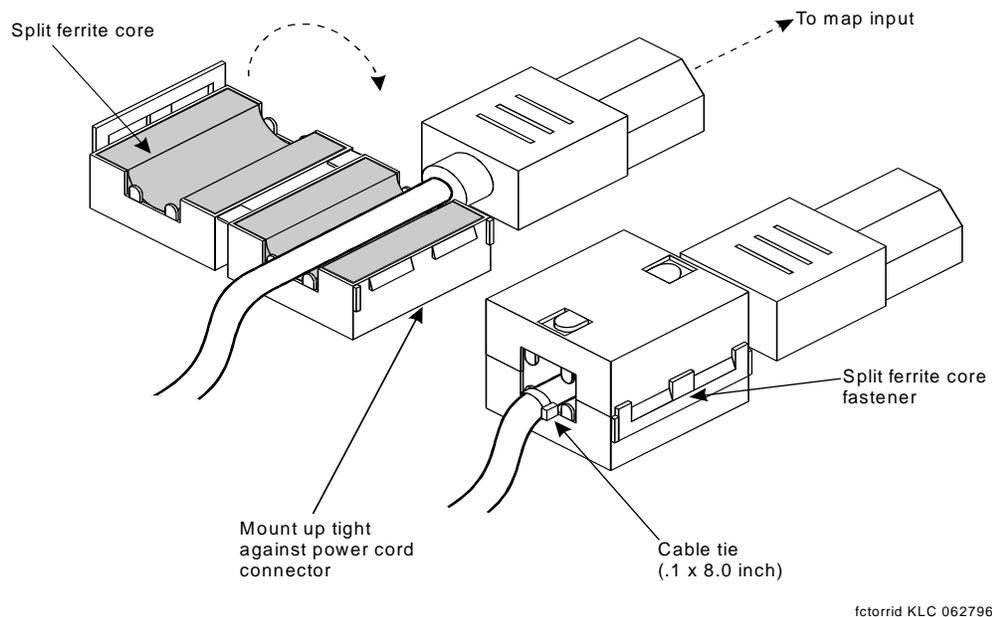

Figure 2-9. Split Ferrite Core Toroid Installation
The split ferrite core toroid is placed on the MAP/100 power cable (Figure 2-9). If the MAP/100 monitor is plugged into the MAP/100 chassis, a split ferrite core toroid is also placed on the monitor power cord.
1. Open the split ferrite core toroid by gently pulling the fastener away from the body of the split ferrite core toroid (Figure 2-9).
2. Place the power cord in the groove inside a split ferrite core toroid (Figure 2-9).
4. Gently snap the split ferrite core toroid shut around the cable (Figure 2-9).
7. Place the monitor power cord in the groove inside a split ferrite core toroid (Figure 2-9).
9. Gently snap the split ferrite core toroid shut around the cable (Figure 2-9).